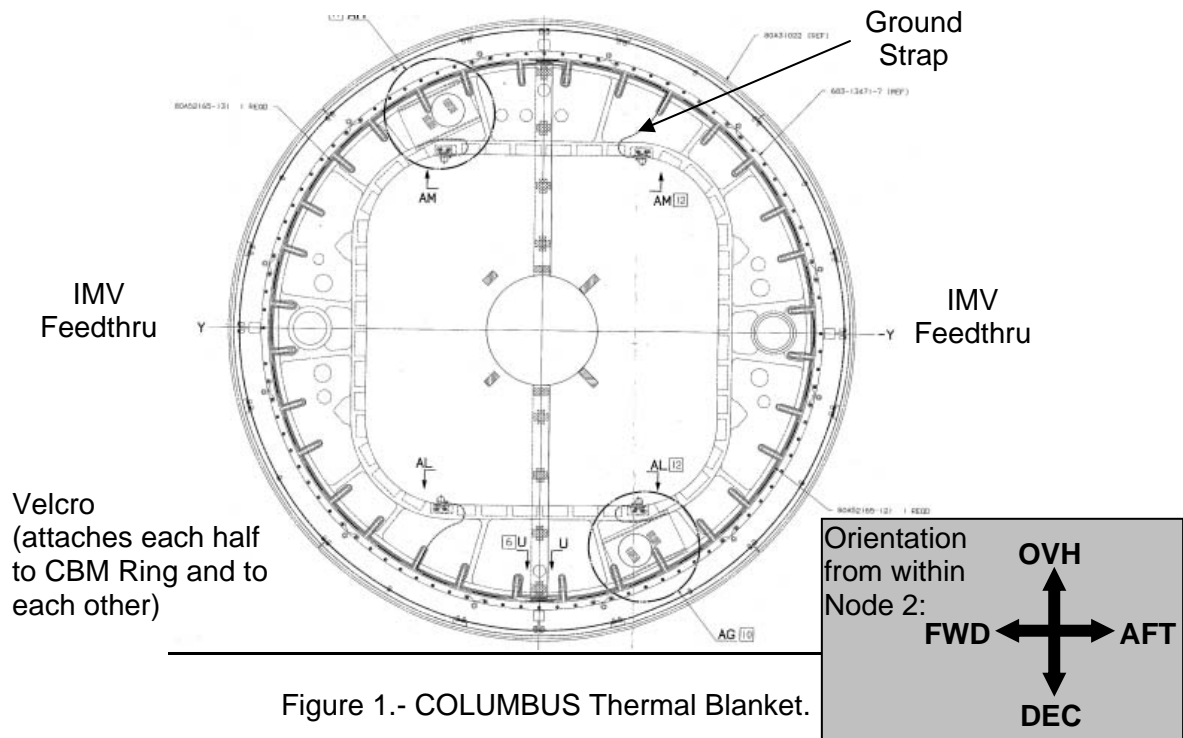

Figure 1.- COLUMBUS Thermal Blanket.
- 3.1 Access ground Fasteners by partially removing Columbus PCBM Thermal Blanket (Velcro). Refer to Figure 1.